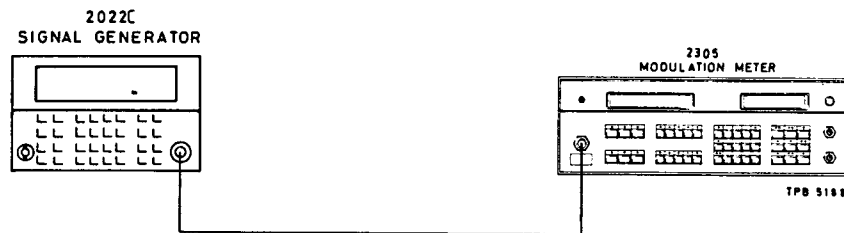

Fig. 5-6 Test gear arrangement for checking phase mod. and distortion
(1) Connect test equipment as shown in Fig. 5-6 and set the 2022C controls as follows :